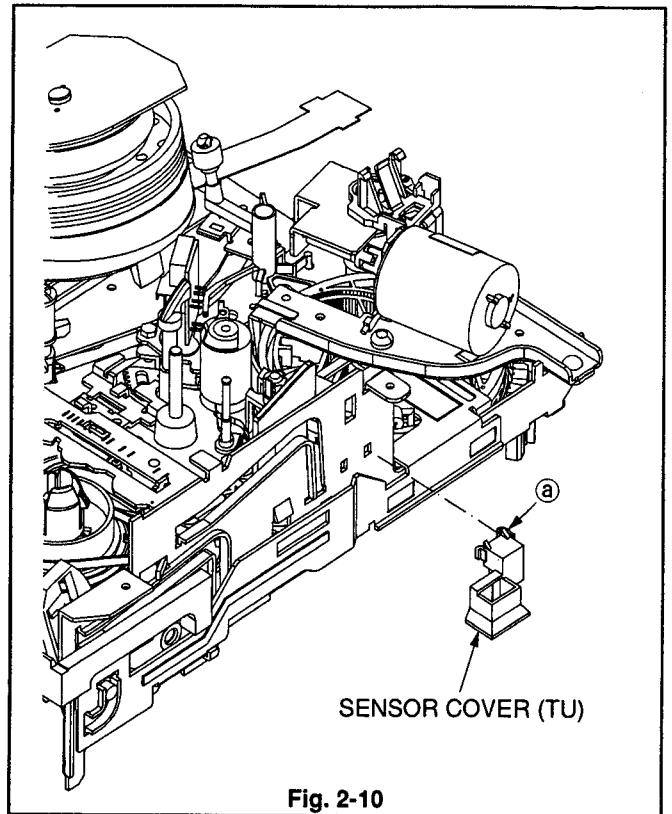

Fig. 2-10
1. Release the catch (a) of the SENSOR COVER (TU) shown in the Fig. 2-10 to remove the SENSOR COVER (TU).
1. Install the SENSOR COVER (TU) shown in the Fig. 2-10.